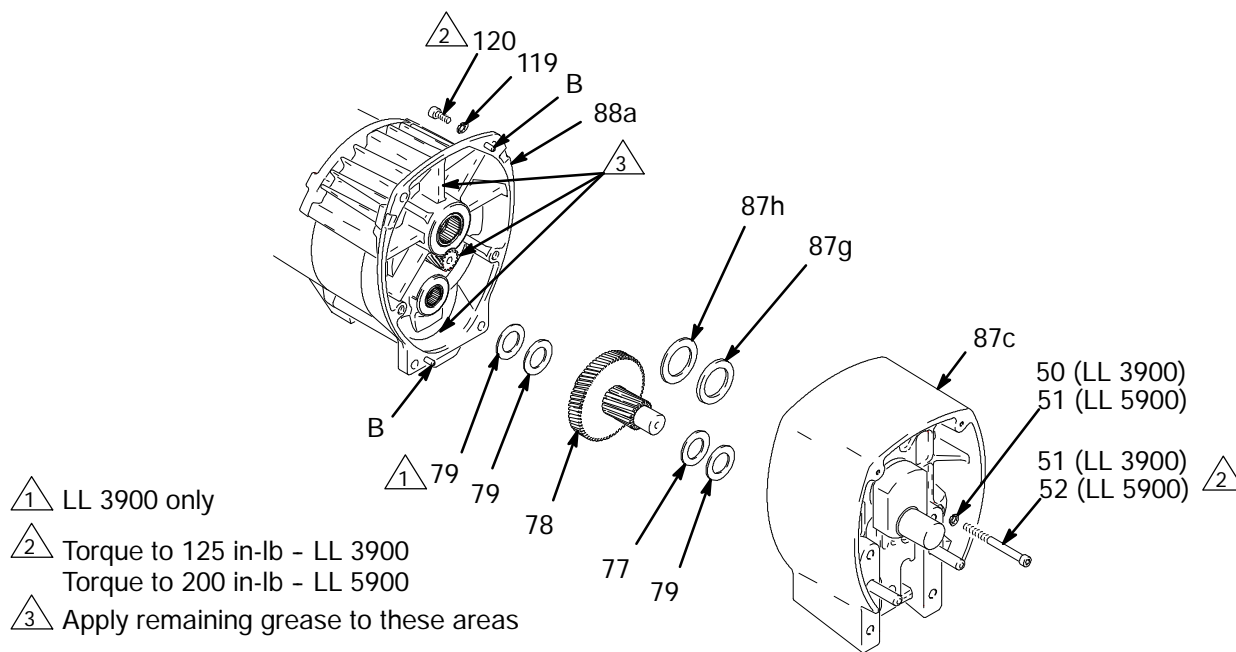

Fig. 4
2. Fig. 4. Remove bearing housing. Do 1. through 8. of **Bearing Housing and Connecting Rod** procedure on page 8.
3. Remove two screws (51) and lockwashers (50).
4. Remove four screws (120) and lockwashers (119) from pinion housing (88a).
5. Lightly tap around drive housing (87c) to loosen drive housing. Pull drive housing straight off pinion housing. Be prepared to support gear cluster (78), which may also come out.